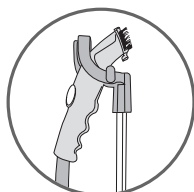

fig.4
5. Place the steam head on the hook - fig.4